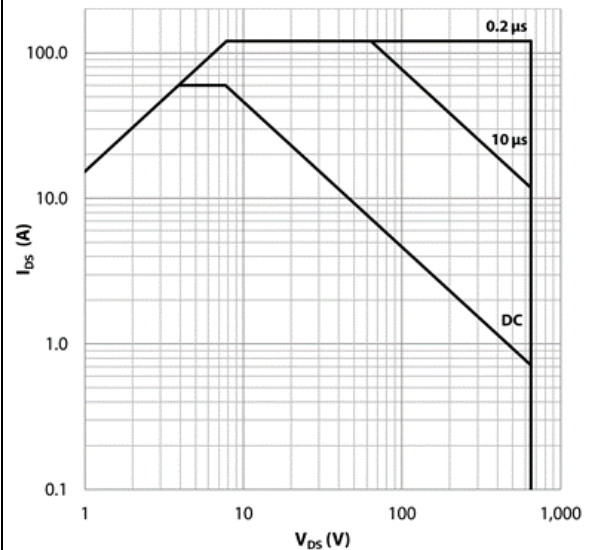

Figure 12: Safe Operating Area @ $T_{case} = 25\text{ °C}$
(6) See Figure 12 for timing test circuit diagram and definition waveforms.